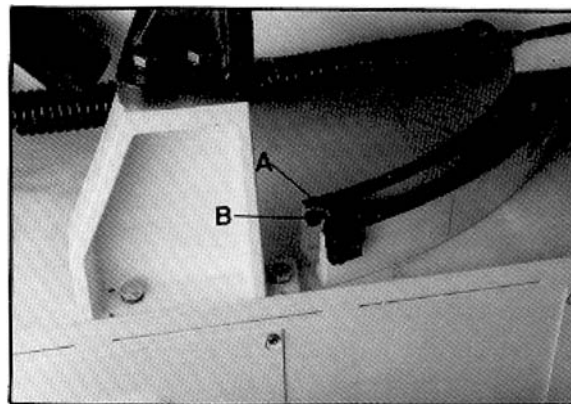

Figure 15
5. Loosen the lock nut (A, Figure 15).
6. Adjust the hex cap screw (B, Figure 15) until the blade is at a 90° angle to the fixed vise jaw.
7. Tighten the lock nut (A, Figure 15).